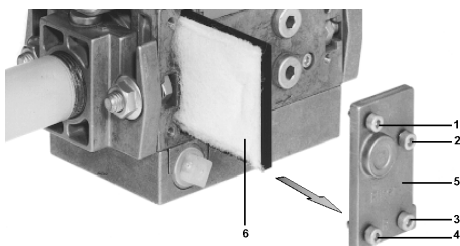

Fig. 40
- 2 Remove screws 1 ÷ 4 using the Allen key n. 3 and remove filter cover 5 in Fig. 40.